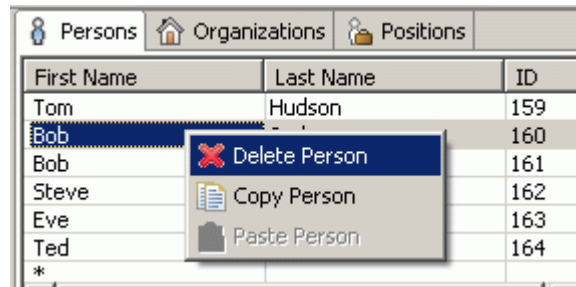

Figure 1. Context sensitive menu, Delete Person
- Right click on the  person, you want to delete, in the table list. A context sensitive menu appears (see Figure 1).